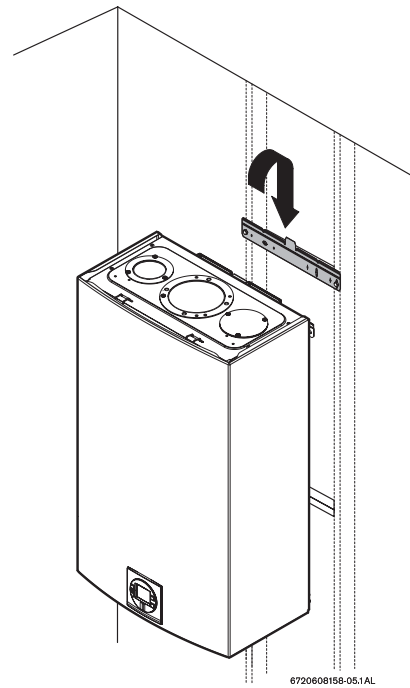

Fig. 10 Mounting the heater
- Hang the appliance on the bracket, see Fig. 10, page 10.